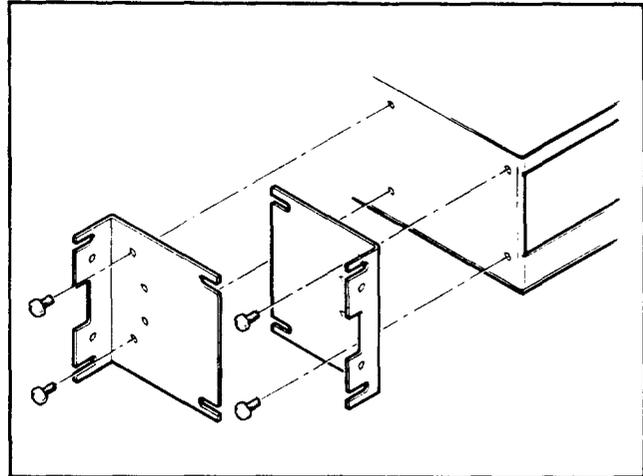

Fig. 3 Bracket Attachment 19 in. Rack Mounting
3.04 **Nineteen Inch Rack:** Refer to Fig. 3 and select the mounting configuration required. Attach each bracket using two of the screws provided, and using the 5/16th in. flat bladed screwdriver.